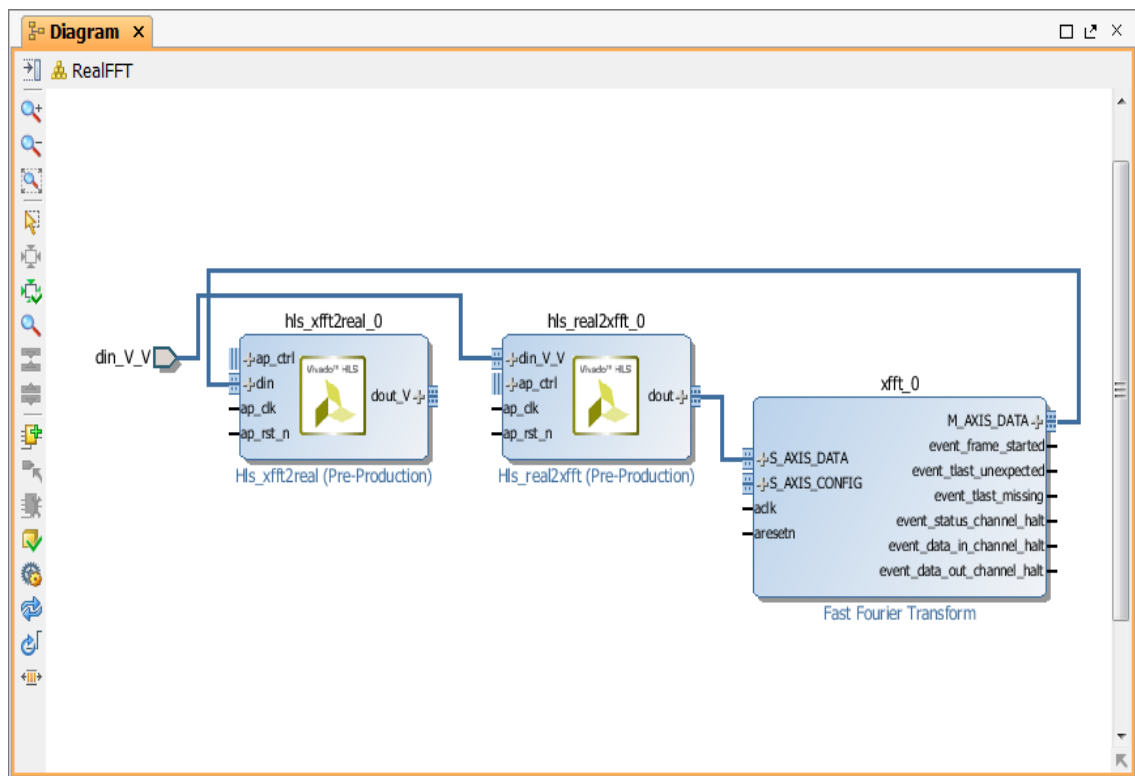

Figure 9-19: Make External Connections
10. Right-click the **din_V_V** interface connector on the `hls_real2xfft` block and select **Make External** (Figure 9-19).